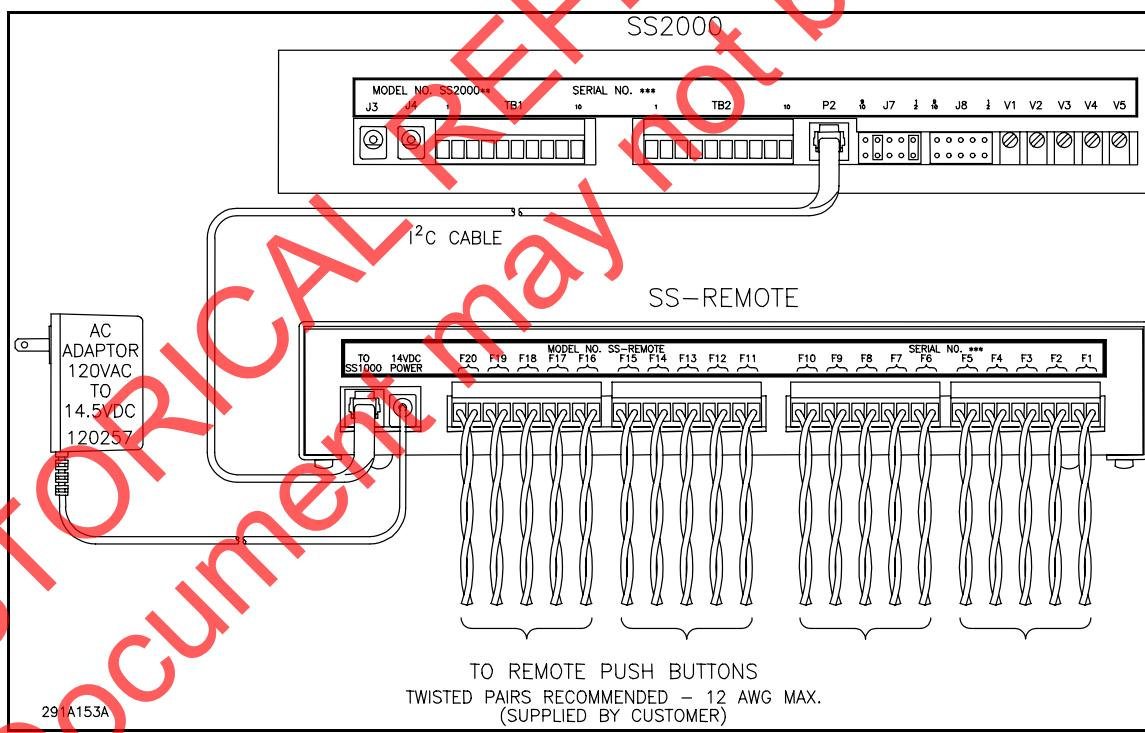

Fig. 6.1
**Operating Procedure:** (Refer to fig. 6-1 for connections.)